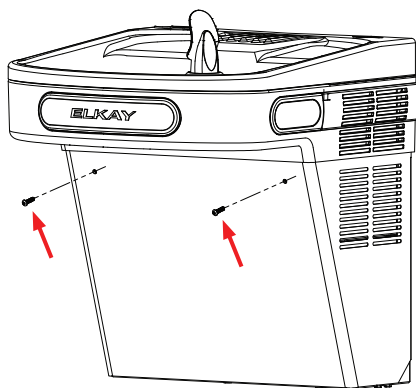
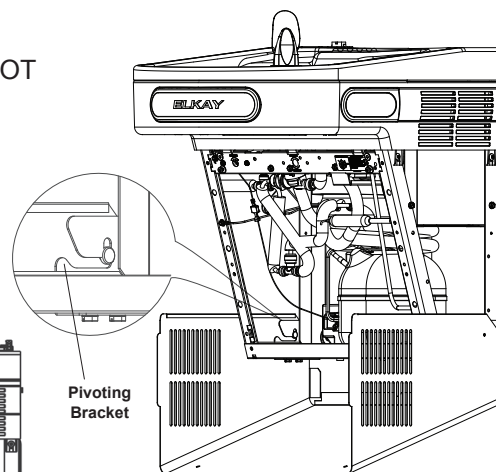

Fig. 5
Fig. 8
(see Fig. 5)
1. Ensure that there are no plumbing or external objects below the wrapper in the specified dimension. The specified (3.27") minimum distance is required for the wrapper to swing out (see Fig. 8).
2. Refer Fig 5 to Fig 8, Pg. 11 for wrapper removing instructions.